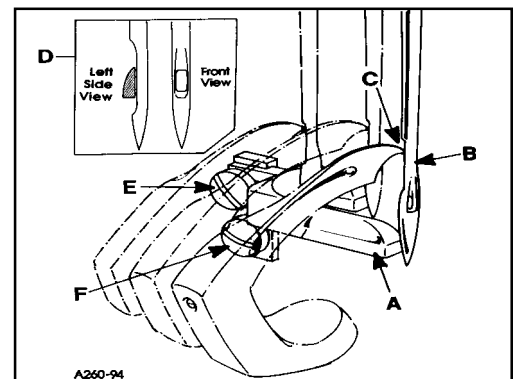
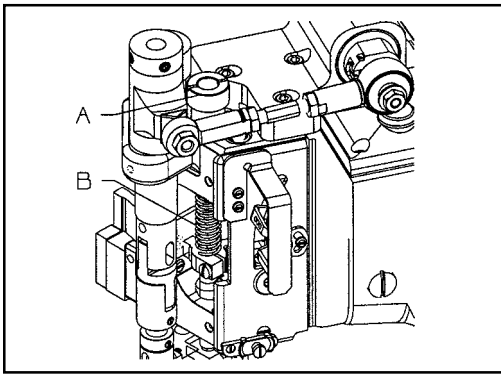
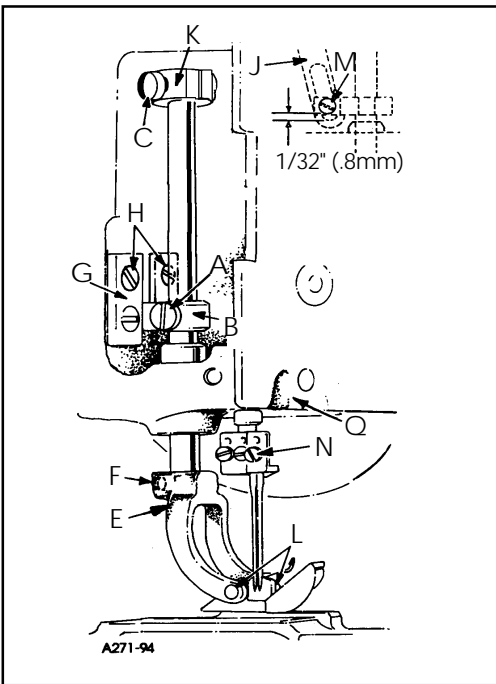

FIG. 13
FIG. 14
FIG. 15
Set the rear needle guard (A, Fig. 13) horizontally so that it barely contacts needles (B) when at its extreme forward position. If adjustment is necessary loosen screw (E) and move guard front to back as required. It should be set vertically as low as possible, yet have its guarding surface in contact with the needles until the points of the loopers (C), moving to the right, are even with the right side of the needles. If adjustment is necessary loosen screw (F) and move guard and holder up or down as required.
NOTE: When installing the needle it should be parallel with the eye in line of feed. If adjustment is necessary, loosen screw (N, Fig. 15) in needle head and rotate needle to attain adjustment (D, Fig. 13).
Remove presser bar knob (A, Fig. 14) and spring (B). Loosen screw (A, Fig. 15) on presser bar guide (B). (Loosen screws (C) in upper stop collar for pneumatic machines only). Slide presser bar upward high enough to slip on presser foot yoke (E) with foot attached and tighten screw (F) on flat of presser bar. Position foot so that the needle holes in the foot line up with the holes in the throat plate. Tighten screw (A)
Presser foot guide plates (G, Fig. 15) should be set so that entire presser foot and bar assembly has free movement up and down with no left to right movement.
Reinstall presser bar spring (B, Fig. 14) and knob (A), with presser foot resting on throat plate.
The presser foot should be adjusted to be 1/8" (3.17mm) above the throat plate before the feed roller mechanism begins to rise. Loosen screw (A, Fig. 15) in presser bar lifter and guide (B, Fig. 15), raise or lower guide as required to attain the specified point at which the feed roller begins to rise. Retighten screw (A) and maintain needle settings.
NOTE: There should be a minimum 1/32" (0.8mm) clearance between screw (M, Fig. 15) and the bottom of the slot in link (J).
Regulate the pressure on the presser foot by turning the presser spring regulating knob (A, Fig. 14) located on top of pressure foot spring (B)..
To remove just the presser foot, remove screws (L, Fig. 15) and replace foot, retighten screws (L).